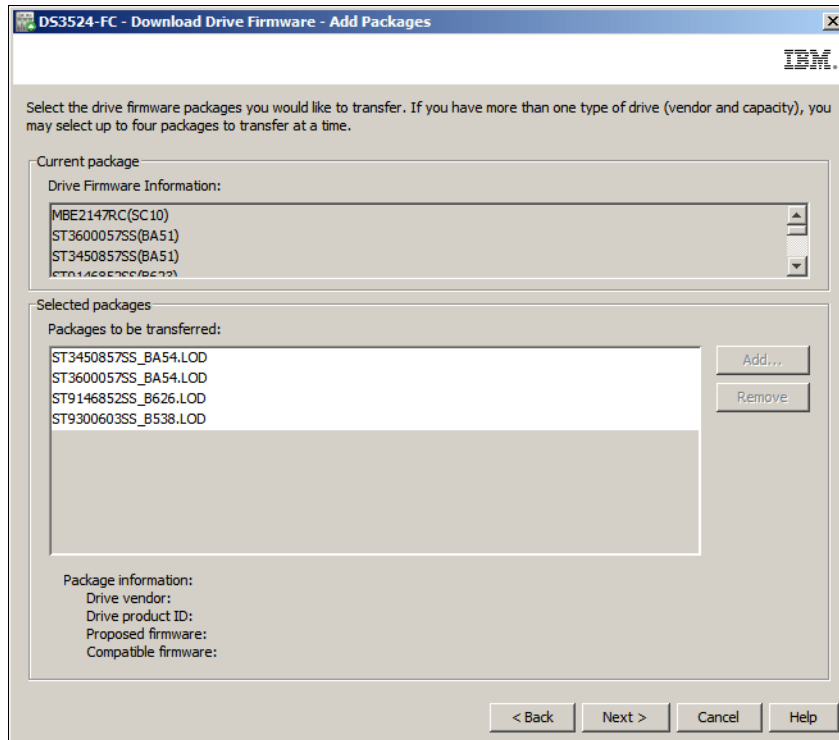

Figure 14-85 Drive packages added
- Repeat these steps for every drive type that you want to update. You can update up to four drive types at a time. After you have selected the compatible drive firmware packages, click **Next** in the Download Firmware window (Figure 14-85) to continue.